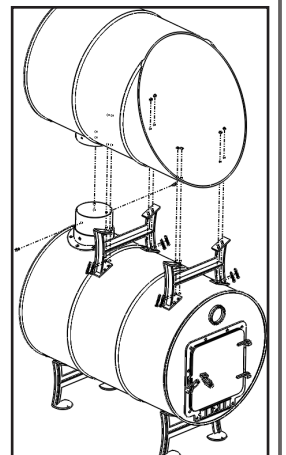

Figure 7
14. With help, hoist the second barrel back on top of the first barrel and support legs. Align the barrel so that the flue pipe fits snug into the flue collar of bottom and top barrel. Fasten barrel to legs. Reach through top flue collar to insert, arrange, and tighten nuts (Figure 7). Fasten the underside flue collar to the stove pipe.